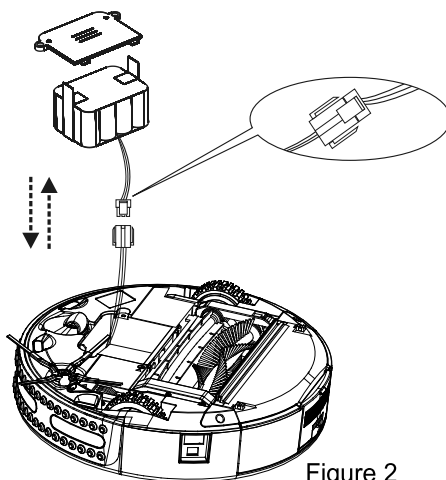

Figure 2
4. Attach the connector on the battery with the connector in the battery compartment by pushing them together until they click into place and are firmly secured. (Refer to Figure 2)